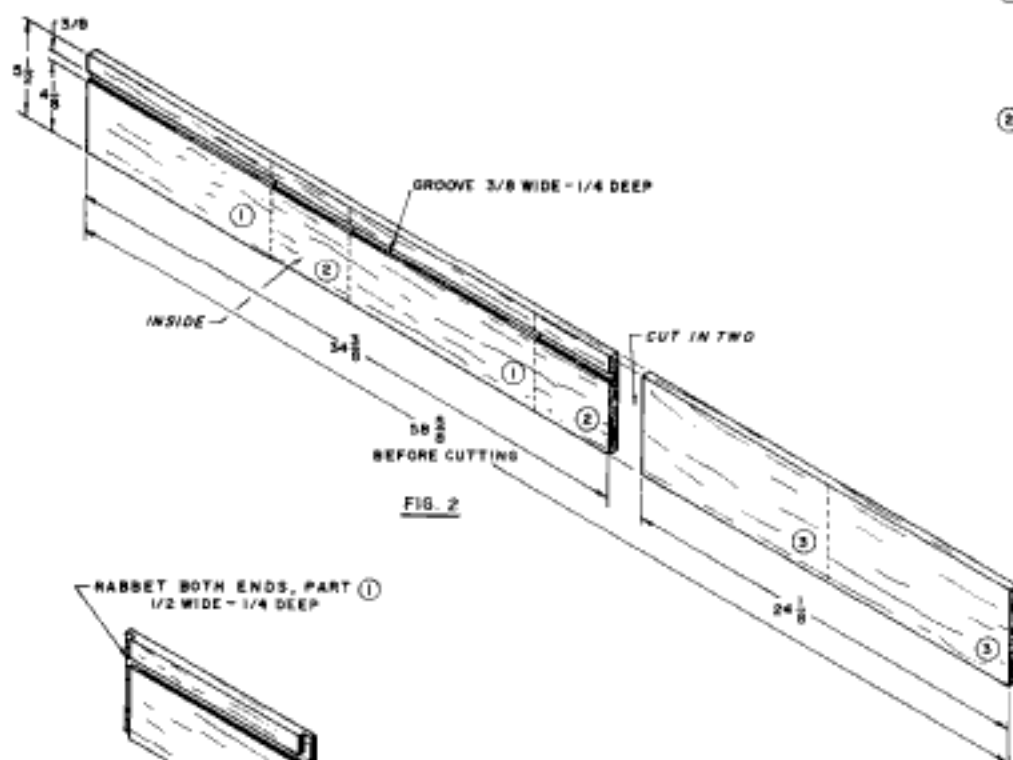

FIG. 2
A piece of wood  $\frac{1}{2}$  inch thick and  $5\frac{1}{2}$  inches wide x 60 inches long will be enough to make the top, bottom, and all four sides, as shown in figure 2. Cut it to form the parts, as described in the next step.
**2.** Cut the parts and assemble the box. Square up the edges of the board and cut off pieces for the top and bottom (part 3) of the box. Before cutting the remaining piece into four sides, rip a groove  $\frac{3}{8}$  inch wide and  $\frac{1}{4}$  inch deep, as shown in figure 2, page 106. This is the first of two cuts that form the dust lip. Once you've cut the groove, saw the board into the front, back, and ends (parts 1 and 2).